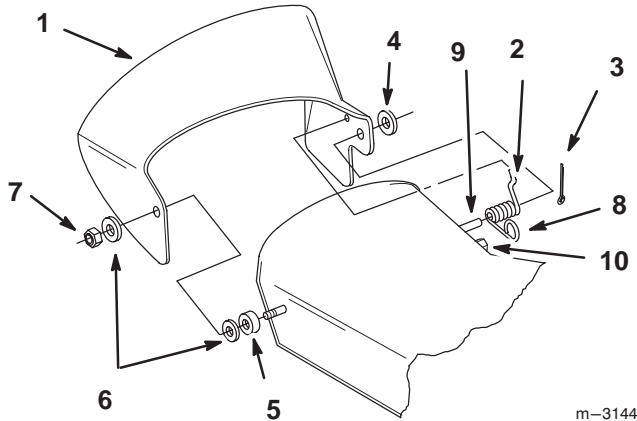

Figure 2
1. Place the short end of the spring into the small hole in the discharge chute (Fig. 2).
2. Position the spring and discharge chute over the post on the rear of the mower and secure them with a washer (1/2 in.) and a cotter pin (3/4 in.) (Fig. 2).
5. Place the discharge chute over the stud and secure it with a second nylon washer and a locknut (3/8 in.) (Fig. 2).